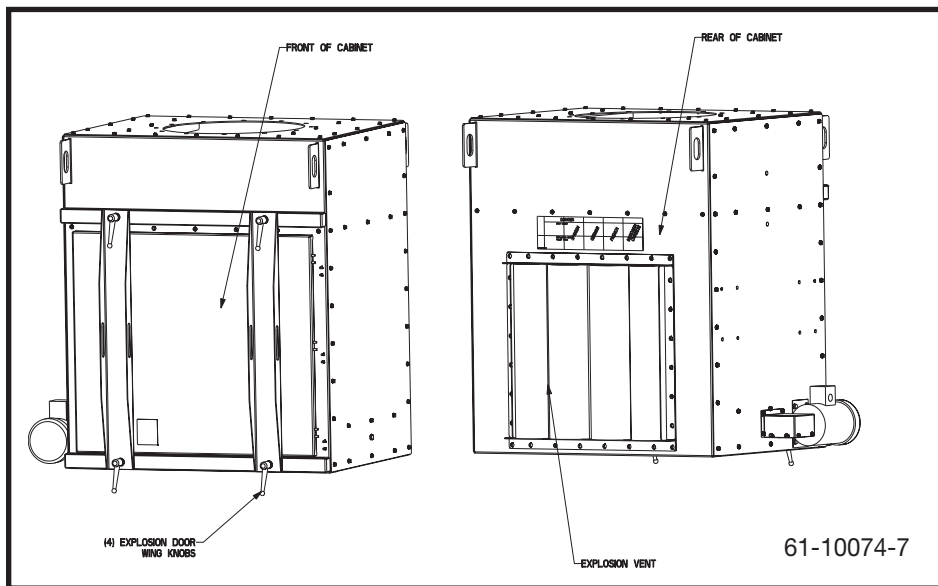

Figure 10.
Figure 10 illustrates a typical explosion vented installation along with the re-enforced filter access door(s). Refer to Parker explosion vent manual (Part Number 44-10284-0001) for further installation details.
5. The blower should be checked for proper rotation. The wheel should be rotating clockwise when looking at the drive side or top of the motor. If the blower is rotating in the opposite direction, disconnect the power to the unit and interchange any two wires from the blower motor within the SDC junction box. Refer to Figure 10 (opposite page).